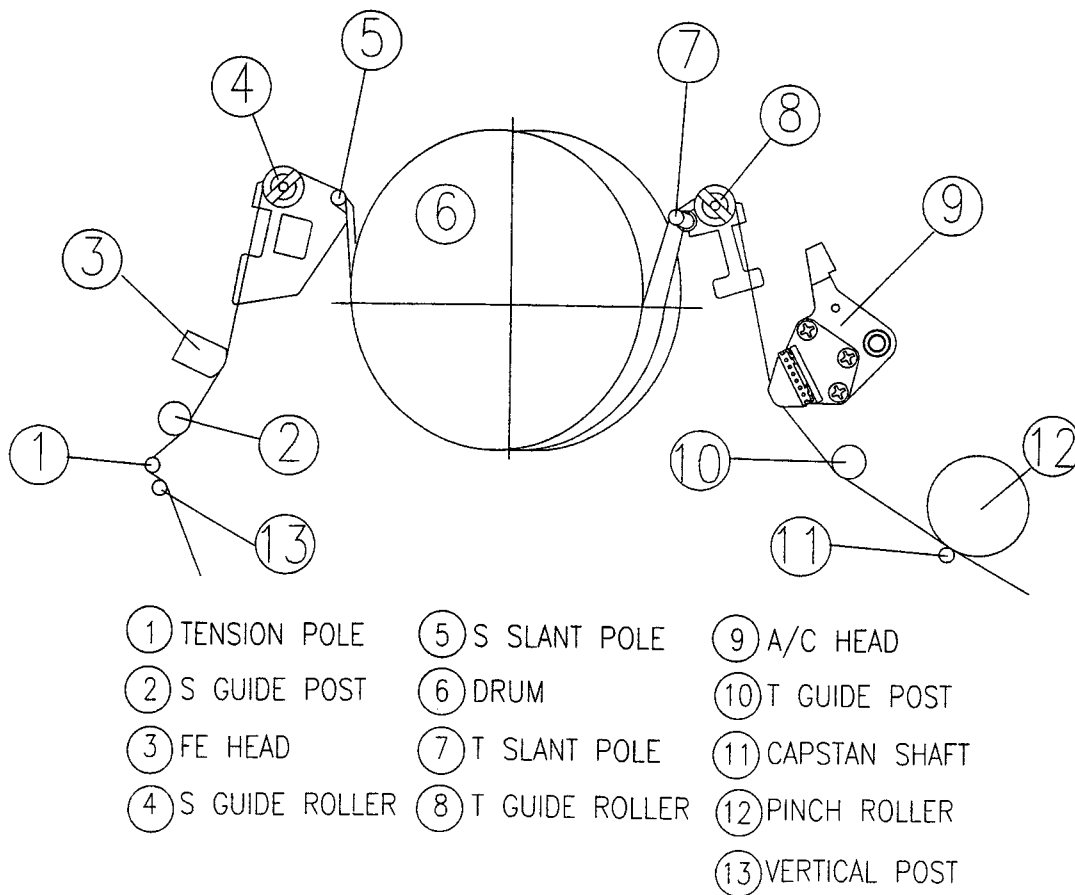

Fig. 5-1 THE SCHEMATIC DIAGRAM OF TAPE TRANSPORTING SYSTEM
When the parts as shown in Fig. 5-1 are replaced, the TAPE TRANSPORTING SYSTEM has changed. To prevent this, it is essential to know thoroughly and observe the following INSTRUCTIONS.
- Play back a T-120 Tape and check the running condition of the TAPE at the lower flanges of the T GUIDE POST ASS'Y ⑪ in Fig. 5-1.